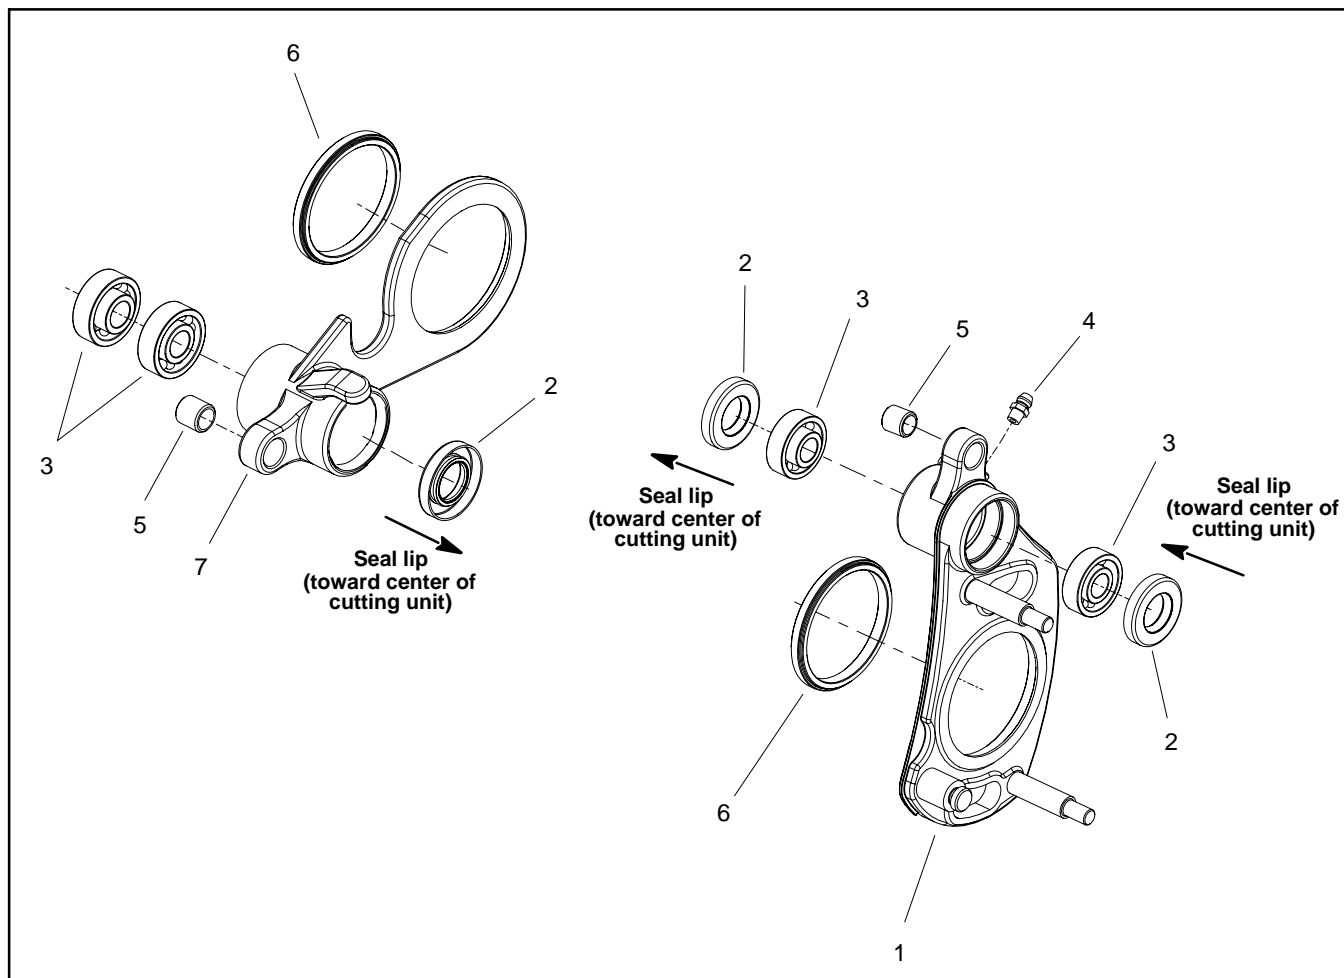

Figure 13
**Note:** The groomer reel drive is located on the opposite side of the cutting unit from the cutting reel hydraulic motor. Figure 13 shows the groomer reel drive from the left side of the cutting unit.
3. Remove bearings in **both** side plate assemblies (Fig. 13):
1. Install new bearings in **both** side plate assemblies (Fig. 13):